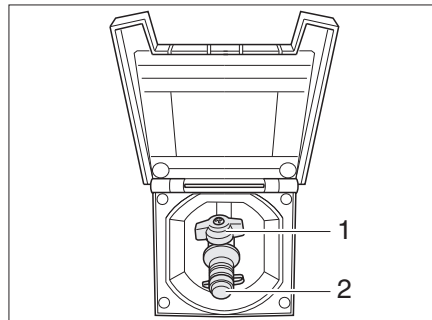

Fig. 89 External gas connection, gas isolator tap closed
The external gas connection (Bild 89) is located at the rear or to the left or right of the vehicle depending on the model.
- Connect the external gas device to the connection point (Bild 89,2).
- Open the gas isolator tap (Bild 89,1).